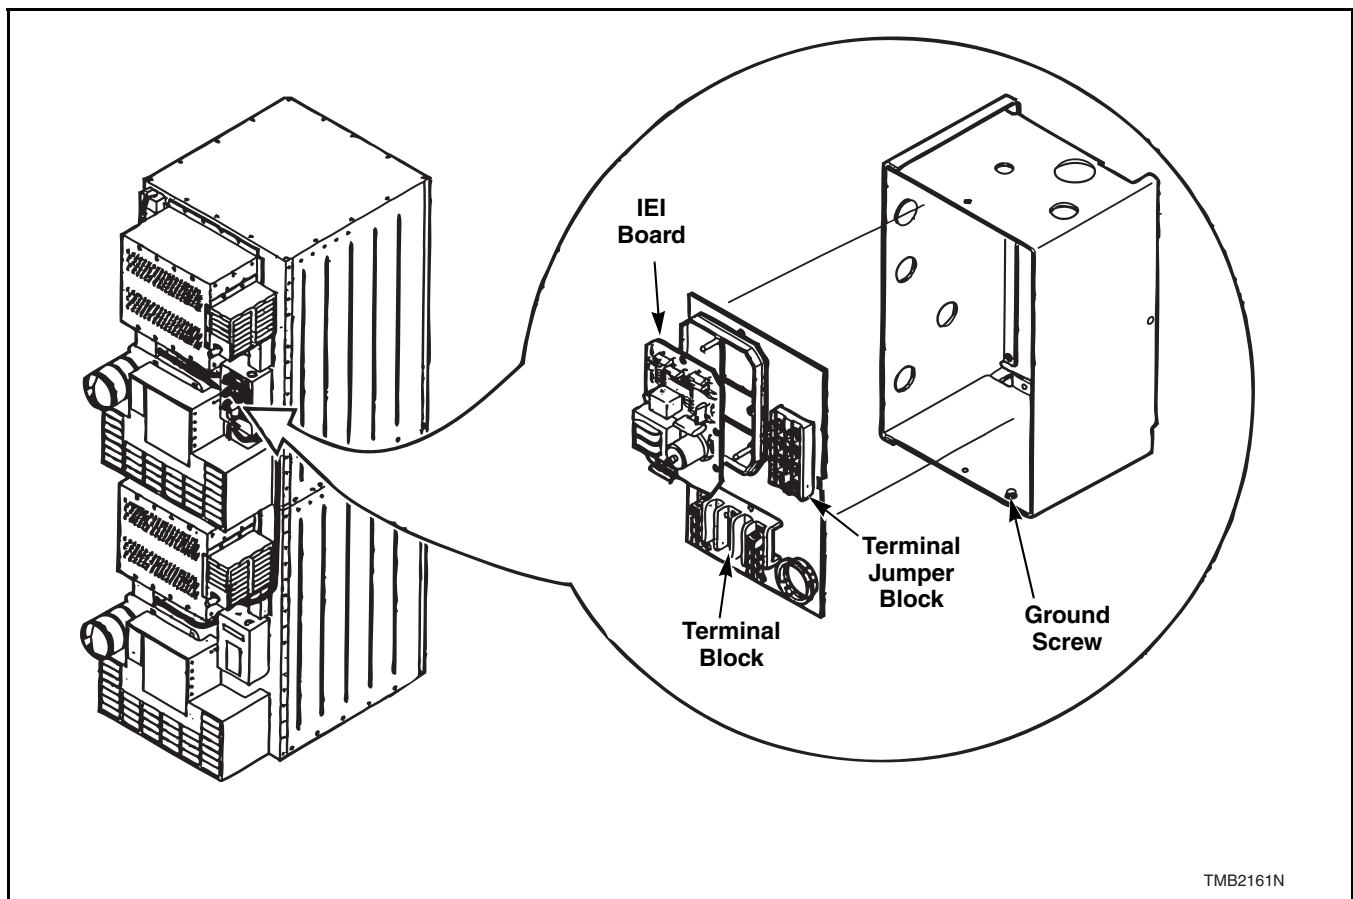

Figure 10
The following steps outline the procedure for connecting the electrical service to the tumbler. The wiring diagram is attached to the rear of the tumbler. Refer to *Figure 10*.
2. Connect the conduit-encased leads to the disconnect switch, or circuit breaker. Remove the screw holding the upper junction box cover to the upper junction box. Refer to *Figure 10*. Insert the other end of conduit through the hole in the top of the junction box. Connect the wire leads to the appropriate terminals of the terminal block (L1 and L2 or L1 and N). If the electrical service is 120 Volt, connect the neutral wire to **NEUTRAL**. The ground wire must be connected to the green ground screw located in the junction box. Refer to *Figure 10*.